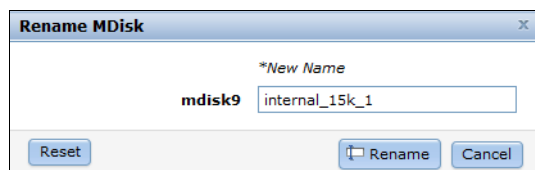

Figure 8-54 Rename MDisk
- **Rename:** MDisks can be renamed by selecting the MDisk and clicking **Rename** from the **Actions** drop-down menu. Input the new name of your MDisk and click **Rename** (Figure 8-54).